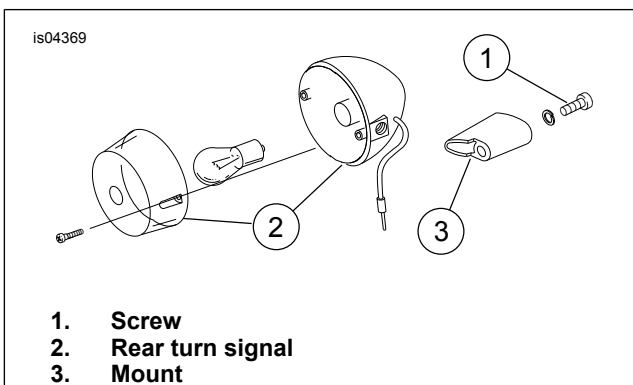

Figure 3. Rear Turn Signal and Hardware
3. See Figure 3. Remove screw (1) from inside the rear fender. Then remove turn signal (2) from mount (3).